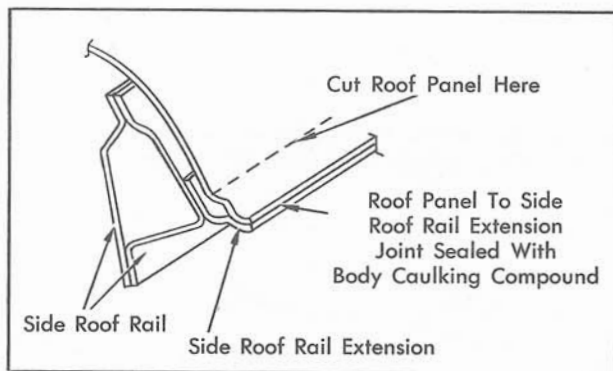

Fig. 17-68 Removal of Roof Panel and Side Roof Rail Extension
8. Cut the roof panel along the sides approximately one inch above the drip moldings; using a panel or impact cutter, Fig. 17-68.
9. Seal the roof panel-to-side roof rail extension joint with body caulking compound as required. Fig. 17-68.